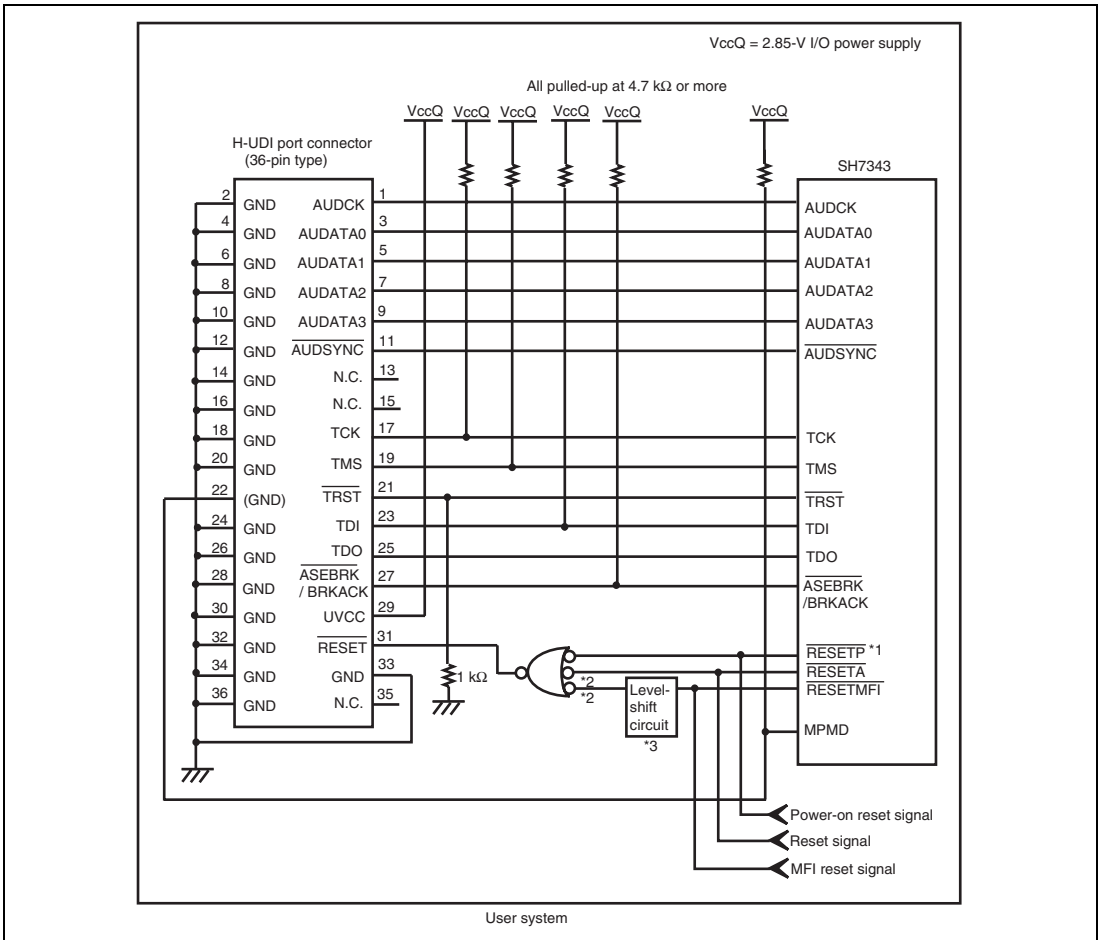

Figure 1.3 Recommended Circuit for Connection between the H-UDI Port Connector and MPU when the Emulator is in Use (36-Pin Type)
5. Connect /RESETP, /RESETA, and /RESETMFI to the user system if required, as shown in figure 1.3.
Figure 1.3 shows a recommended circuit for connection between the H-UDI and AUD port connectors (36 pins) and the MPU when the emulator is in use.
- (1) When the emulator is used: MPMD = 0
- (2) When the emulator is not used: MPMD = 1Figure 1.3 shows an examples of circuits that allow the MPMD pin to be GND (0) whenever the emulator is connected by using the user system interface cable.
7. The resistance values shown in figure 1.3 are reference.
When the circuit is connected as shown in figure 1.3, the switches of the emulator are set as SW2 = 1 and SW3 = 1. For details, refer to section 3.8, Setting the DIP Switches, in the SuperH™ Family E10A-USB Emulator User’s Manual.
3. When VccQ_MFI is used at 1.8 V, the level-shift circuit in figure 1.3 is required to adjust the signal levels.
- (1) When the emulator is used: $MPMD = 0$
- (2) When the emulator is not used: $MPMD = 1$Figure 1.3 shows an examples of circuits that allow the MPMD pin to be GND (0) whenever the emulator is connected by using the user system interface cable.